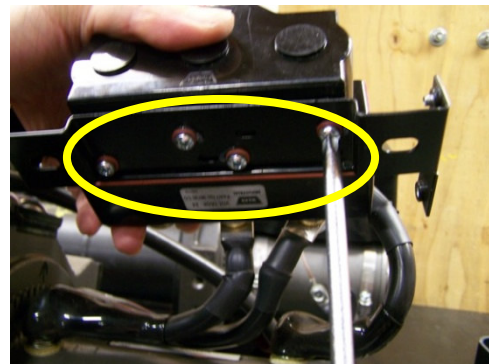

Figure 8
Step 8: Unscrew and remove the contactor bracket. (Figure 8)